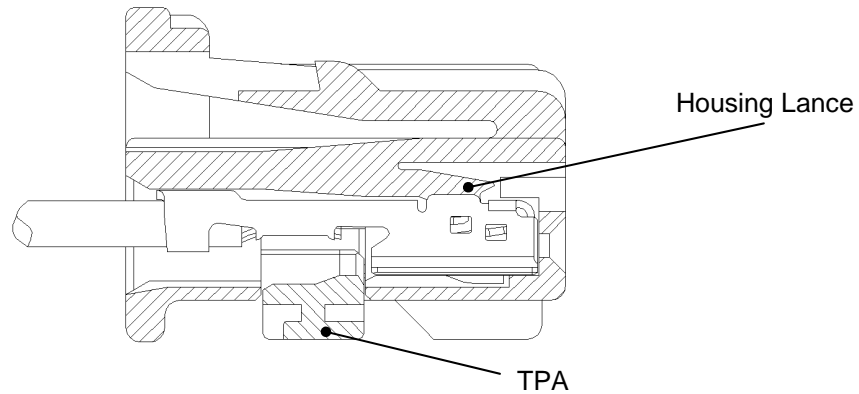

Figure 15. Primary Lock of Terminal
- c) Push the terminal in straight with just enough force to insure proper locking with the housing lance. An audible click should be heard when the housing lance is engaged. See Figure 15.